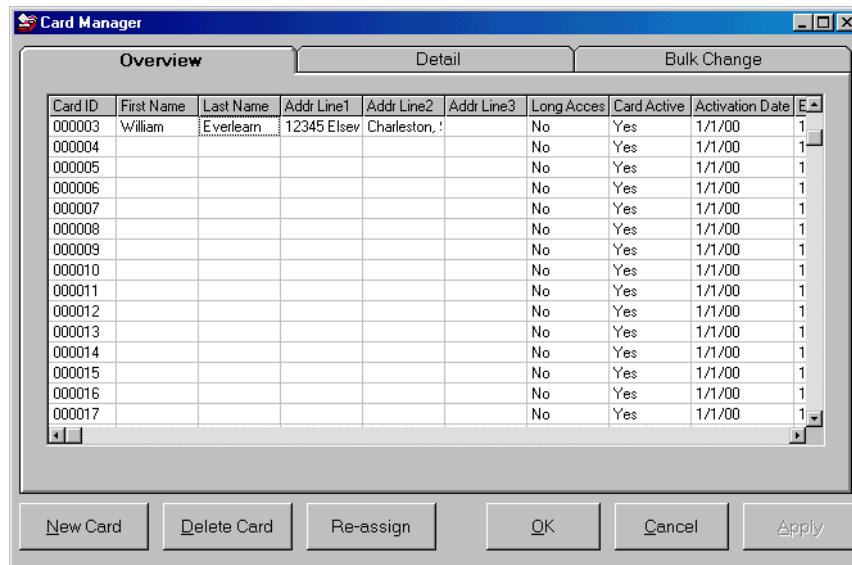

Figure 21: Card Manager (Overview Tab)
- 11 Return to the Overview screen (Figure 21) to verify that the card you entered has been properly accepted.